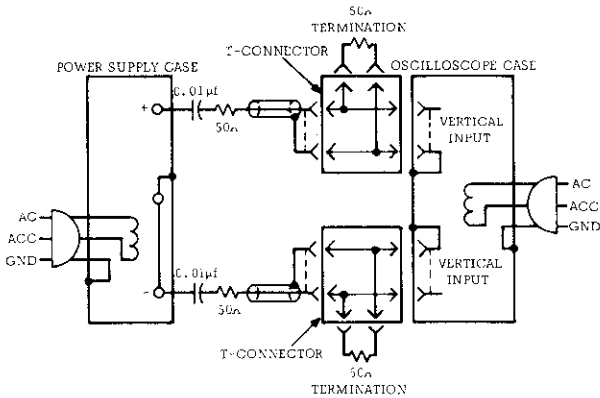

Figure 5-7. CV Noise Spike Test Setup
1. As shown in Figure 5-7, two coax cables, must be substituted for the shielded two-wire cable.
5-30 The circuit of Figure 5-7 can also be used for the normal measurement of low frequency ripple and noise; simply remove the four terminating resistors and the blocking capacitors and substitute a higher gain vertical plug-in in place of the wide-band plug-in required for spike measurements. Notice that with these changes, Figure 5-7 becomes a two-cable version of Figure 5-6B.